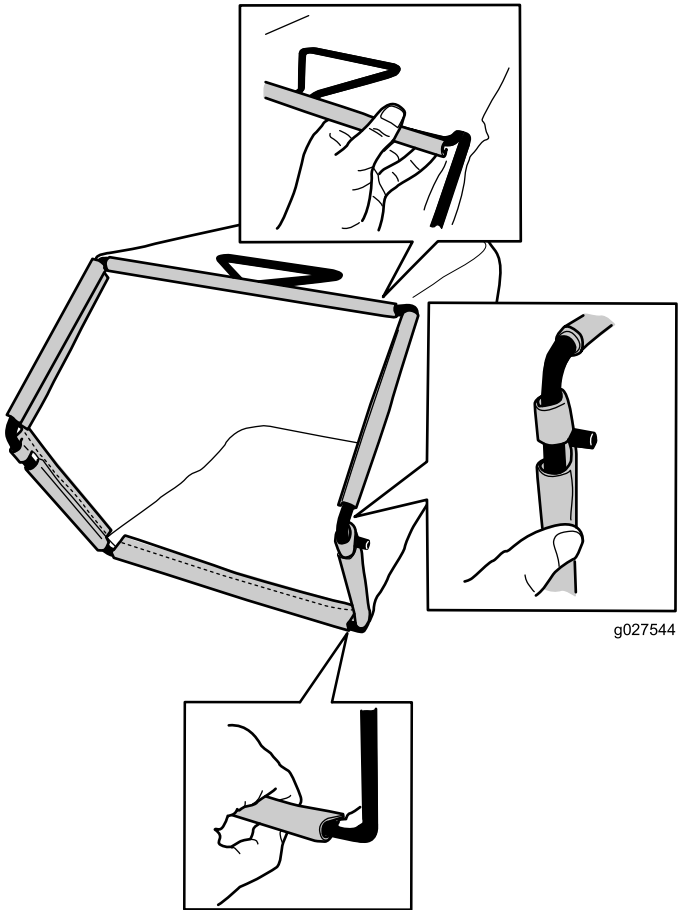

Figure 7
- 2. Hook the bottom channel of the bag onto the bottom of the frame (Figure 7).
- 3. Hook the top and side channels of the bag onto the top and sides of the frame, respectively (Figure 7).